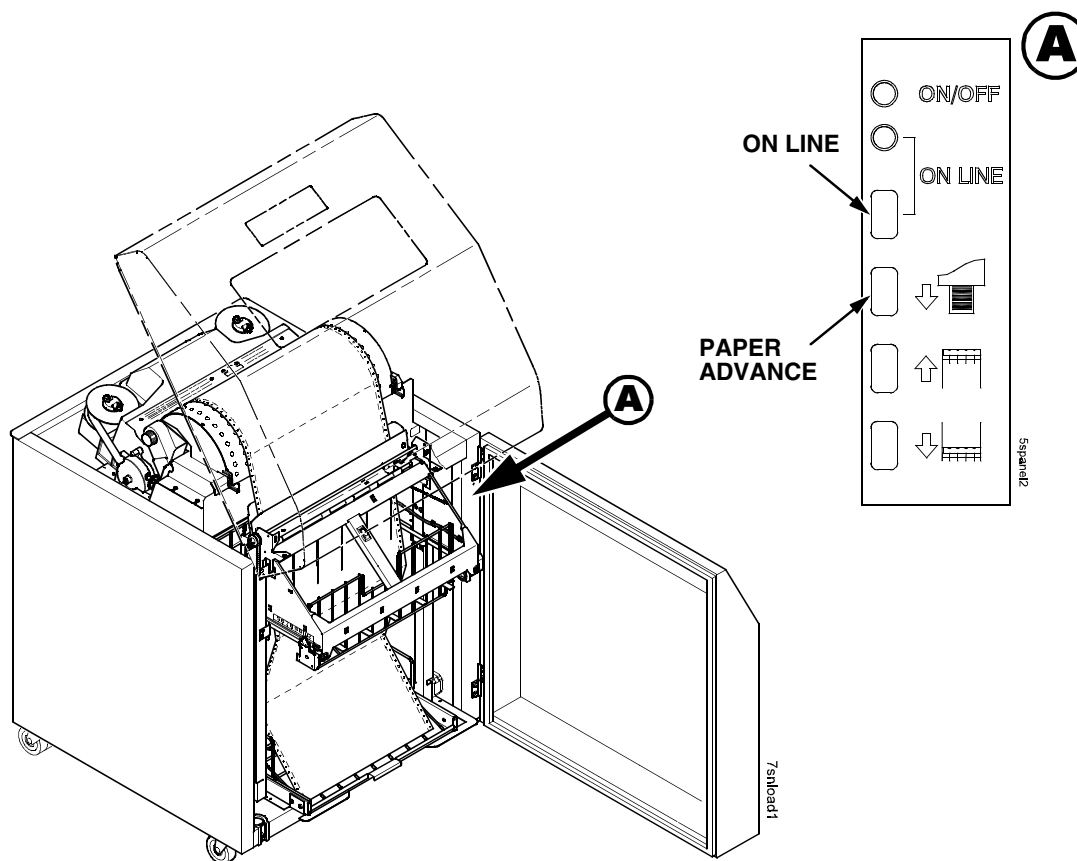

Figure 72. Stacking Paper on the Wire Paper Tent
1. Press the **PAPER ADVANCE** key and hand feed the paper down into the paper throat of the stacker. Continue to advance the paper until it reaches the paper tent (if installed) and feed three to five extra sheets into the stacker. Make sure the paper passes through the paper throat of the stacker. (Figure 72.)
2. Stack the extra pages on top of the wire paper tent (if installed), making sure the paper bends with the natural fold. (Figure 72.)